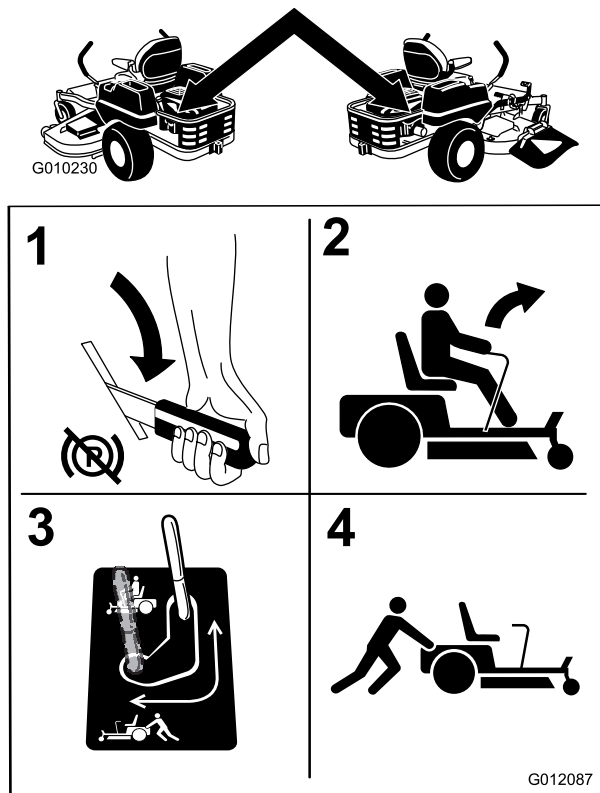

Figure 31
4. Move the bypass levers rearward and then left to lock them in place as shown in Figure 31 to disengage the wheel motors. Repeat this on each side of the machine.
Move the bypass to the position for pushing the machine (Figure 31) to engage the wheel motors.